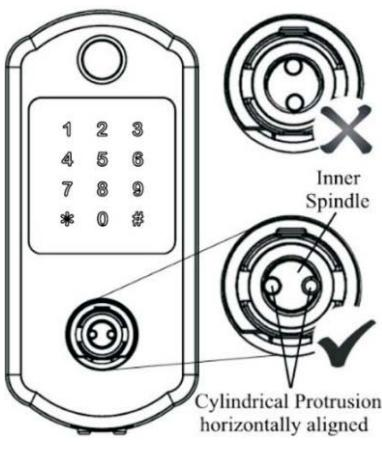

fig. 6
**3.1 Rotate inner Spindle by Screwdriver to make the Cylindrical Protrusions horizontally aligned (see fig. 6). (Please also refer picture on page 17 and 18).**
3.4 Put the lever on the Lever Spindle (see fig. 7c or 8c). The lever should stop half way when you push the Lever in. **(Caution: Refer fig. 6 to do step 3.1 and 3.2 if Cylinder is stuck in lever or if the key can't be inserted completely and rotated.)** Insert key into the Cylinder, rotate the key **CLOCKWISE 90°** (see fig. 9a). Continue rotating the key while pushing the lever until the lever is pushed in (see fig. 9b). The